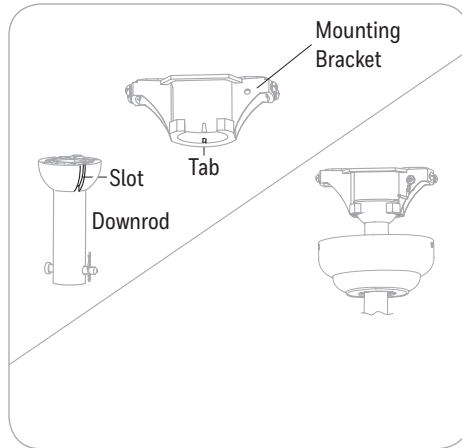

Figure 3.5
5. Install the ball end of the downrod into the opening of the mounting bracket (Figure 3.5). **WARNING:** Failure to align the slot in the ball with the tab on the mounting bracket may cause the fan to fall, which could result in injury or death.